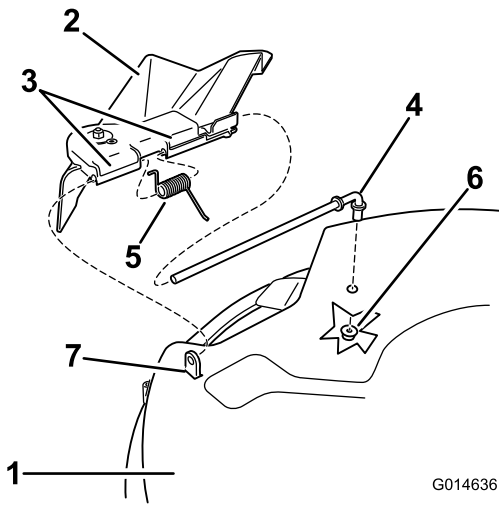

Figure 54
- Locate items shown in Figure 54.
2. Remove the nut (3/8 inch) from the rod under the mower (Figure 54).
3. Slide the rod out of the short stand-off, spring, and grass deflector (Figure 54).
5. Replace the grass deflector (Figure 54).
7. Place the spring on the rod, with end wires down, and between the grass deflector brackets. Slide rod through second grass deflector bracket (Figure 54).
9. Secure rear end of rod into the mower with a nut (3/8 inch) as shown in Figure 54.